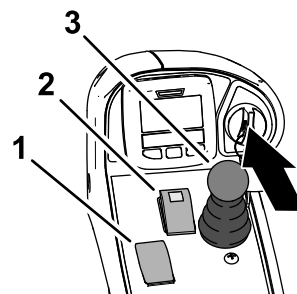

Figure 55
- Ensure that the PTO switch is set to the DISENGAGE position (Figure 55).